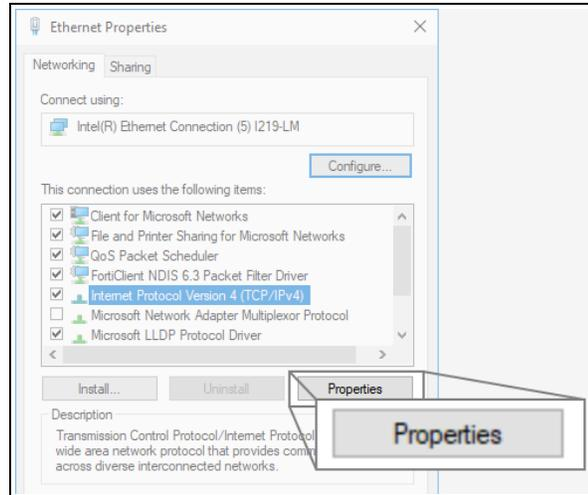

Figure 106: Ethernet Properties dialog box
7. Select the **Internet Protocol Version 4 (TCP/IPv4)** option. Figure 106